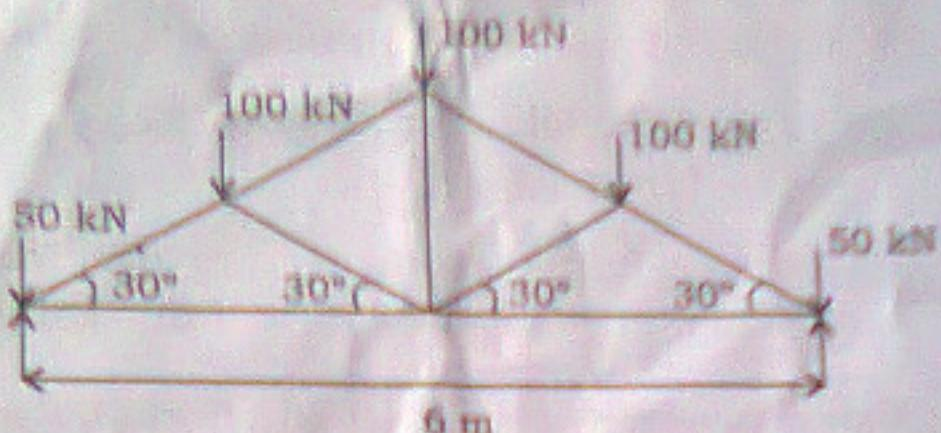

Fig. 3
2. Determine the forces in all members of the truss as shown in Fig. 3.